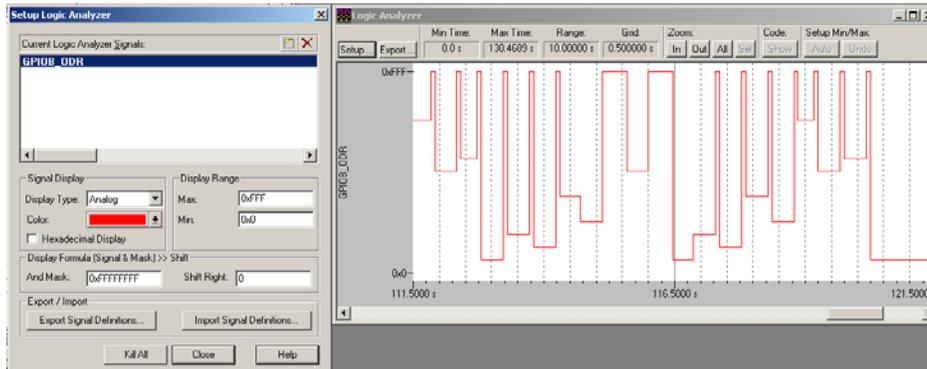

Figure 24 Setup Logic Analyzer and data display window
3. Click on Setup... the Setup Logic Analyzer window on the left side of Figure 24 opens up.